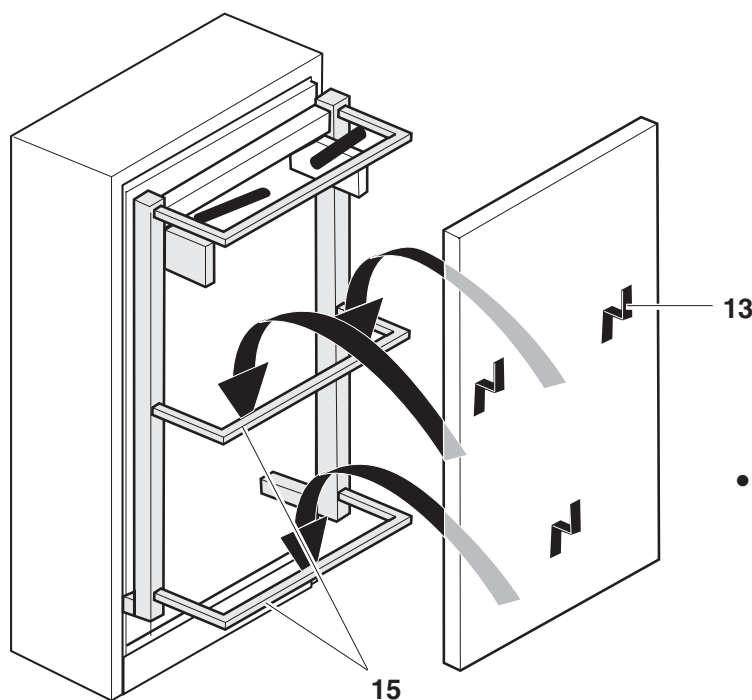

Fig. 9
- Hang prepared front panel with front-panel brackets **13** on the transverse tubes **15** on the bed frame, see **Fig. 9**.